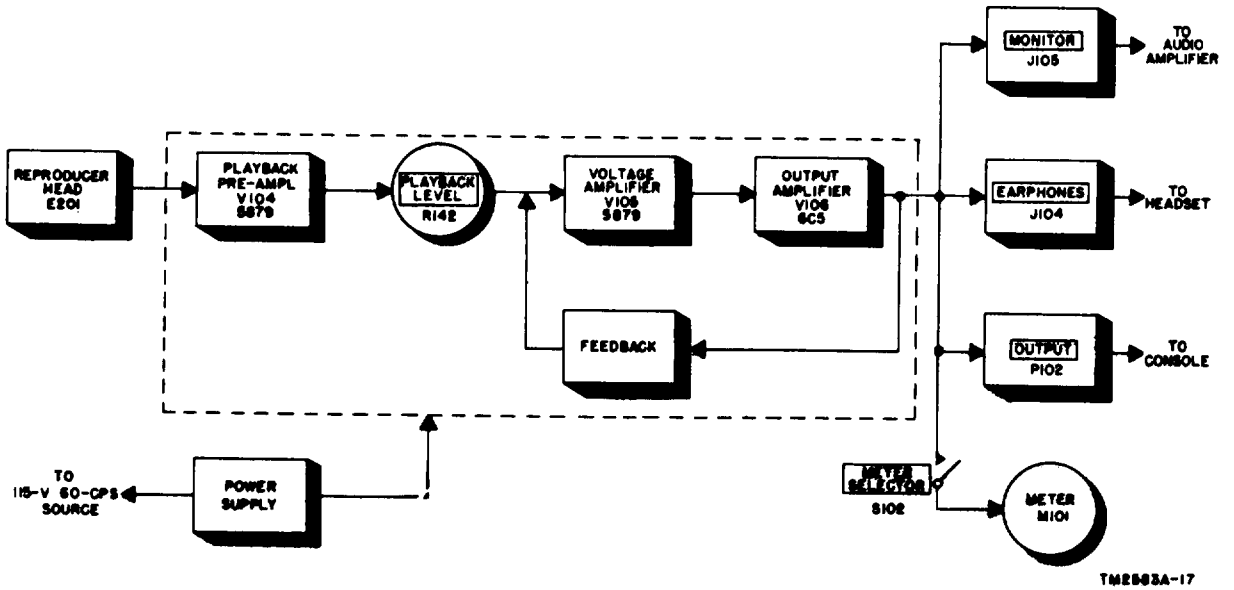

Figure 19. Block diagram of playback circuit.
- (1) A portion of the output signal of tube V102A is fed to voltage amplifier tube V105 through the contacts of METER SELECTOR switch S102.
- (2) The amplified output of tube V105 (fig. 19) is fed to output amplifier tube V106, and then to OUTPUT connector P102, EARPHONES jack J104, and MONITOR jack J105 (fig. 19).
- (3) A portion of the output of tube V106 is fed back to the cathode of tube V105 as a negative feed-back voltage.
- (4) Tube V105 output is connected through METER SELECTOR switch S102 to EARPHONES jack J104, to OUTPUT connector P102, or to the audio amplifier through a connection to MONITOR jack J105.
- (5) LINE TERMINATION switch S106 is used to close a circuit to load the playback amplifier output when using a headset with other than a 600-ohm impedance or when the audio amplifier is not connected to the amplifier.
#### 46. Playback Block Diagram (fig. 19)